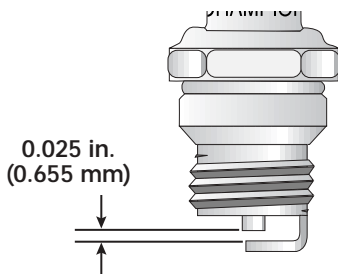

Fig. 24
3. Replace a cracked, fouled or dirty spark plug. Set the air gap at **0.025 in. (0.655 mm)** using a feeler gauge (Fig. 24).